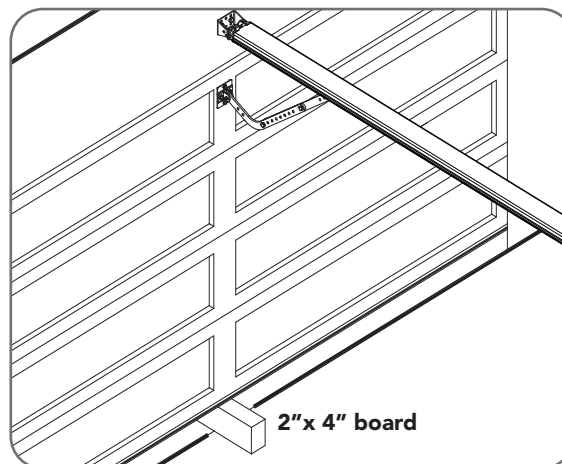

Fig.6.5.2
- Place an object approximately 1-1/2" to 1" (25mm) high (or a 2"x 4" board laid flat, with 2" facing the door) on the floor directly under the door, **Fig 6.5.2**.